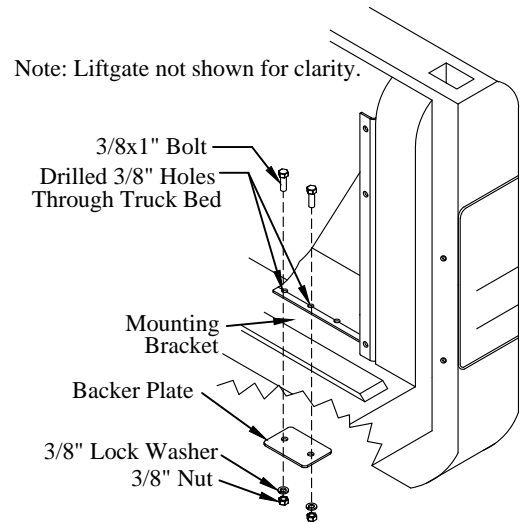

Figure 9: Mounting bracket and backer plates.
7. **Drill** two (2) 3/8" holes into the truck bed floor using two adjacent holes in the bracket as a guide (Figure 9).
8. **Fasten** each bracket to the truck box using the supplied (Figure 9):